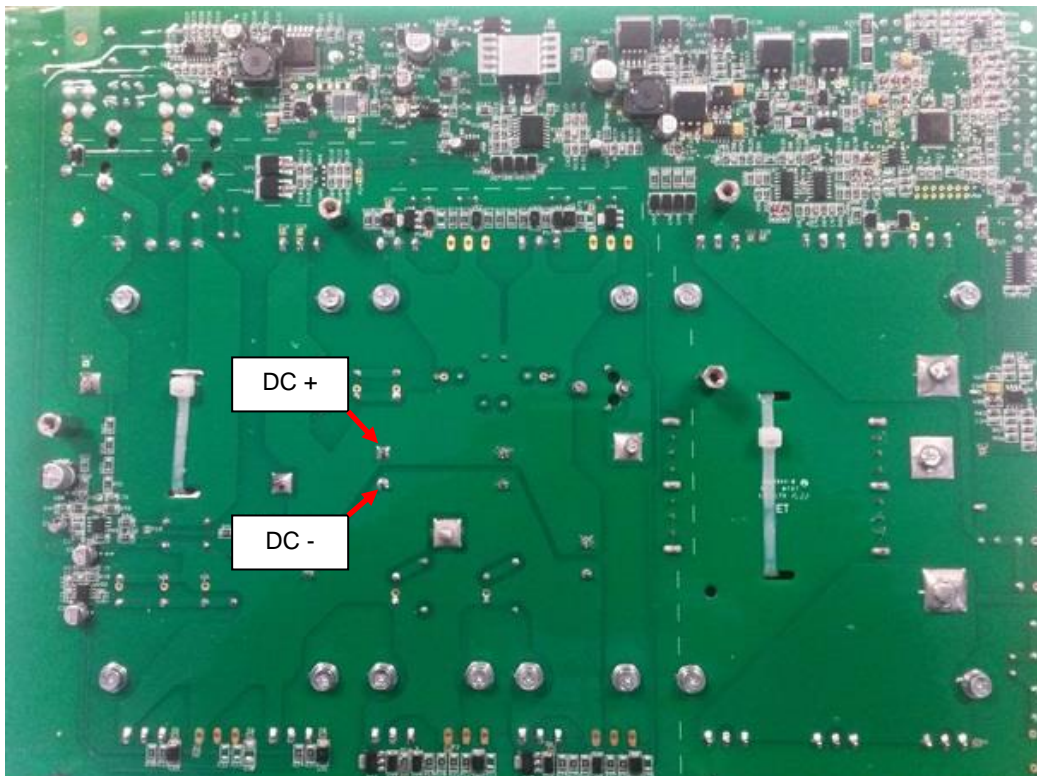

Figure 1
6. Once the Main Board has been removed connect your multi-meter positive probe to **DC+** point and your negative probe to **DC -** and check the voltage across filter capacitors. **See Figure 1**
9. Use electrically insulate gloves and insulated pliers. Hold the body of the resistor and connect the resistor leads across the two points **DC+** and **DC -**. **See Figure 1**. Hold the resistor in place for 10 seconds. **DO NOT TOUCH CAPACITOR TERMINALS WITH YOUR BARE HANDS.**